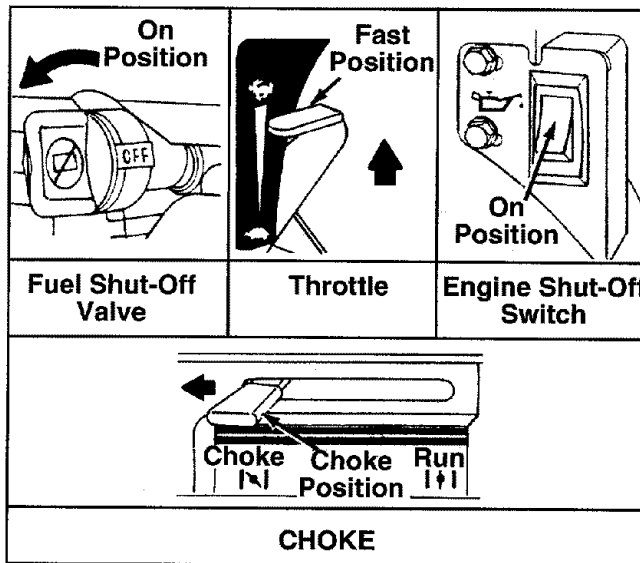

FIGURE 14.
**FUEL SHUT-OFF VALVE**—Used to stop the flow of fuel into the carburetor. See figure 14.
- Close fuel shut-off valve when equipment is not in use to prevent fuel leakage. See figure 14.
- Open fuel shut-off valve by turning in direction of arrow. See figure 14.
- Place the throttle control lever in FAST position. See figure 14.
- Place the engine shut-off switch in ON position. See figure 14.
**NOTE:** If engine does not fire after three attempts, move choke lever halfway between CHOKE and RUN position and try again. See figure 14.
- Move engine shut-off switch to OFF position. See figure 14.